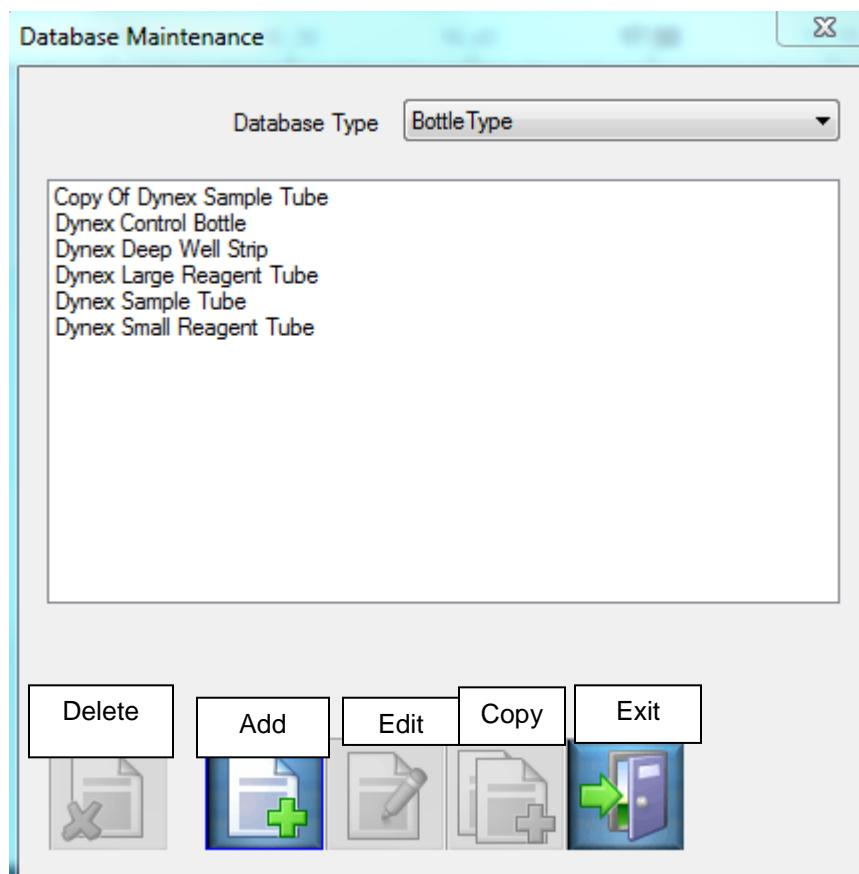

Figure 4-2: Database Maintenance Screen – Button Definitions
3. To update an existing definition, highlight the desired consumable and click the **Edit** button (Figure 4-2). Factory defined consumables are read-only and cannot be edited.
1. Click on the **Add** button (Figure 4-2), enter the consumable name and click **OK**.